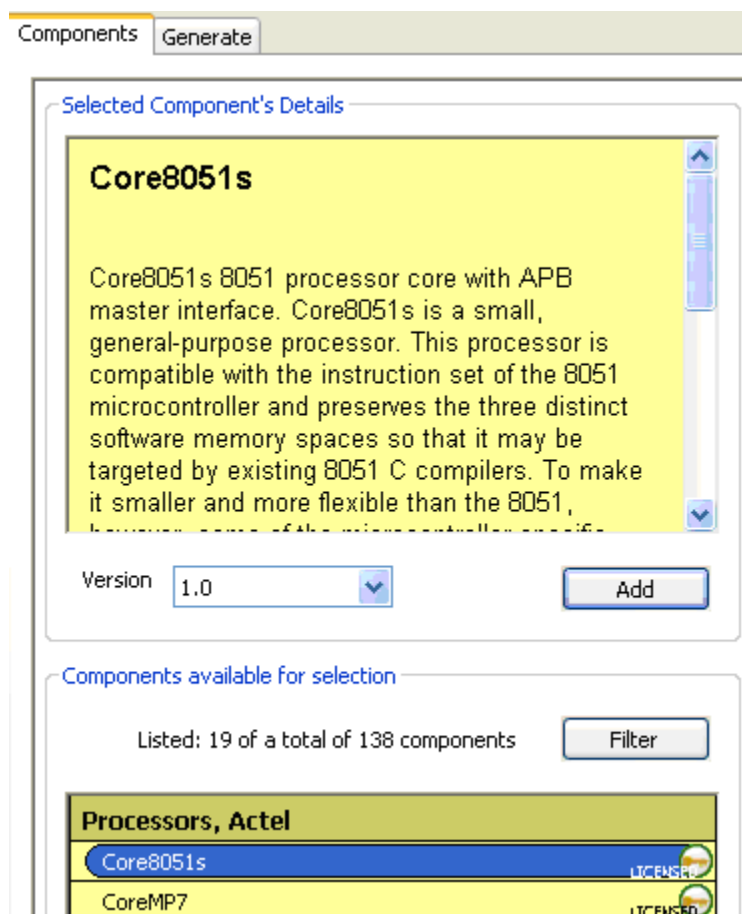

Figure 3-1. Example Adding Core8051s Processor
2. In the **Components** Tab in **CoreConsole**, select the **Core8051s** processor and click **Add**. This will add the processor to the schematic window. See Figure 3-1.